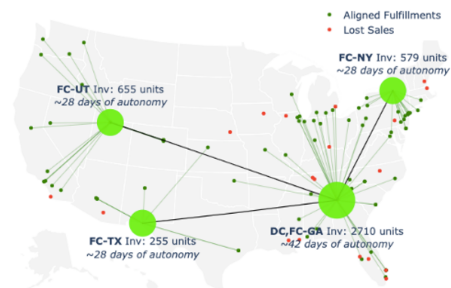

Figure 2: Inventory level and flow of goods through the network
- **Dynamic Inventory Planning:** With the daily-updated demand forecasts, the simulator dynamically adjusts production plans and inventory levels at each node of the network by just specifying your inventory targets (say you want to maintain 4 weeks of stock in the network with 99% confidence that no demand is lost during these four weeks). It enables for example to visualize the evolving current state of the inventory levels and flow of goods through the network (Figure 2).